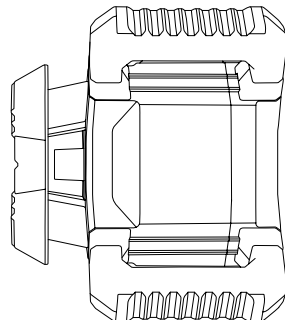

Fig.3
- Place the laser level onto it's back with the control panel facing upwards and the 5/8"-11 thread for vertical operation facing down. Ensure the laser is placed onto a reasonably level surface (Fig.3)